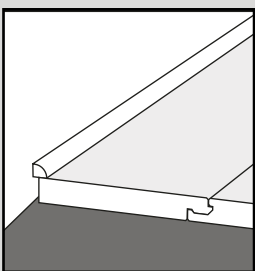

Fig. 7
9. Once the floor is installed, remove the spacers; sweep the floor with a soft brush. Fix the base boards or suitable edge trim (available from your local distributor) to cover the expansion gaps. These should be attached to the wall and not the floor, such that the Rigid Core remains free to move (Fig. 7 & 8).